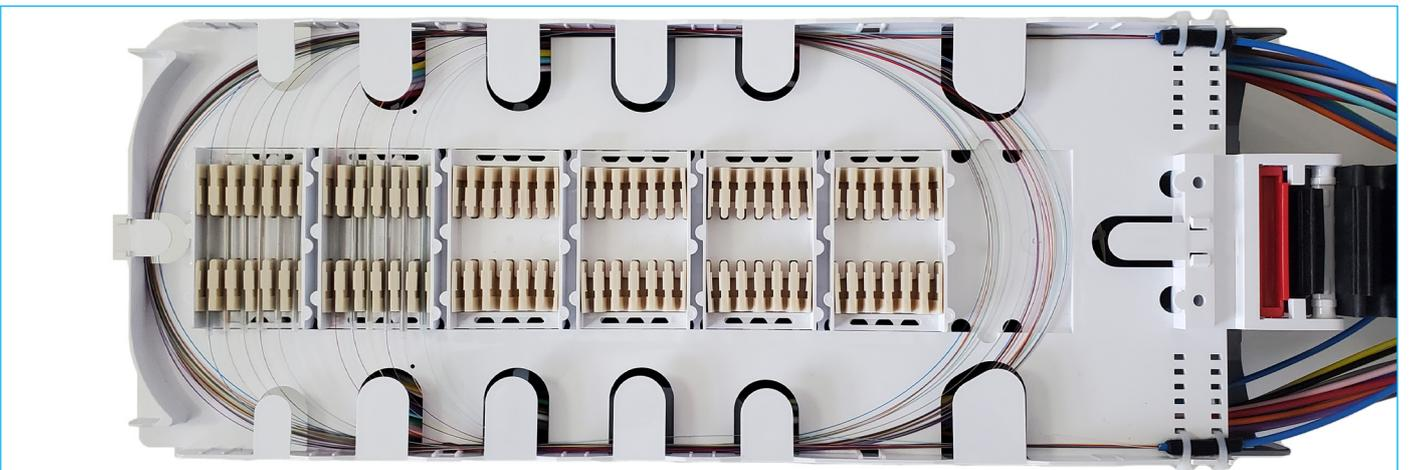

Figure 19
- 9.6 Figure 19 below shows routing of LBT fibers on single height splice tray.